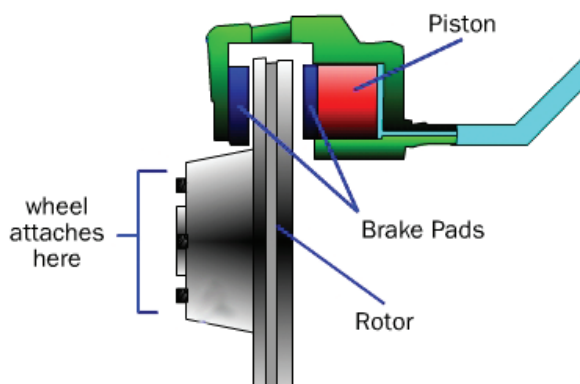

Figure 5.9 - Disk brake system of a car
- In modern motor vehicles, disc-brakes are used to stop the vehicle. Such a break system is shown in figure 5.9. In such systems, the frictional forces caused by pressing the break-pads against a disc attached to the wheel, are used to stop the wheels from rotating.